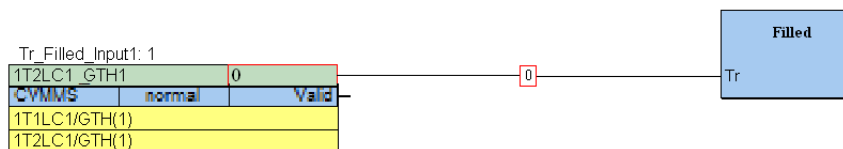

Figure 53. Transition Filled, Detail Diagram Online
- the transition sub-diagram, see Figure 53.